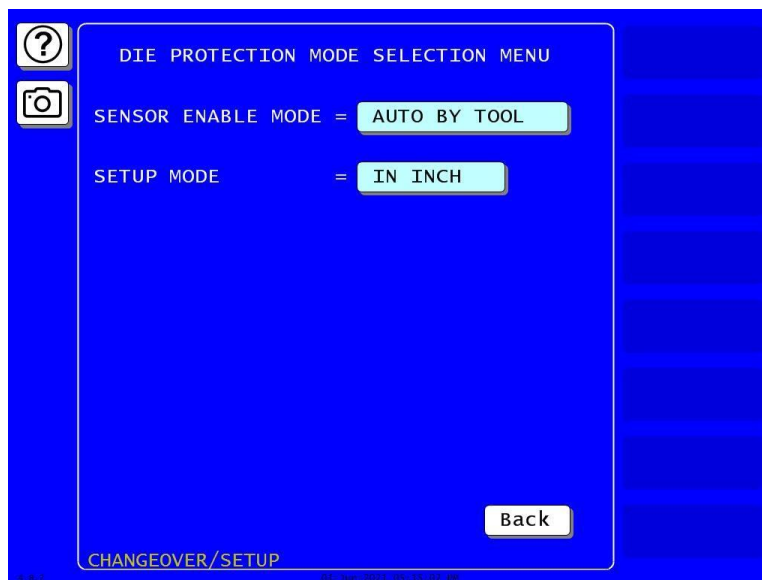

Figure 6-6. Die Protection Mode Selection Menu
SENSOR ENABLE MODE allows you to select the way in which your die protection sensors are enabled. This item also allows you to enable Setup mode if this feature has been wired during installation. You make these settings on the Die Protection Mode Selection Menu, Figure 6-6. You can later change the sensor enable mode for any tool in Program mode (*Selecting Sensor Enable Mode by Tool in Program Mode*, page 175).
1. Press **SENSOR ENABLE MODE** on the Main Initialization Menu. The Die Protection Mode Selection Menu appears, Figure 6-6.
1. Press **SENSOR ENABLE MODE** on the Main Initialization Menu. The Die Protection Mode Selection Menu displays, Figure 6-6.